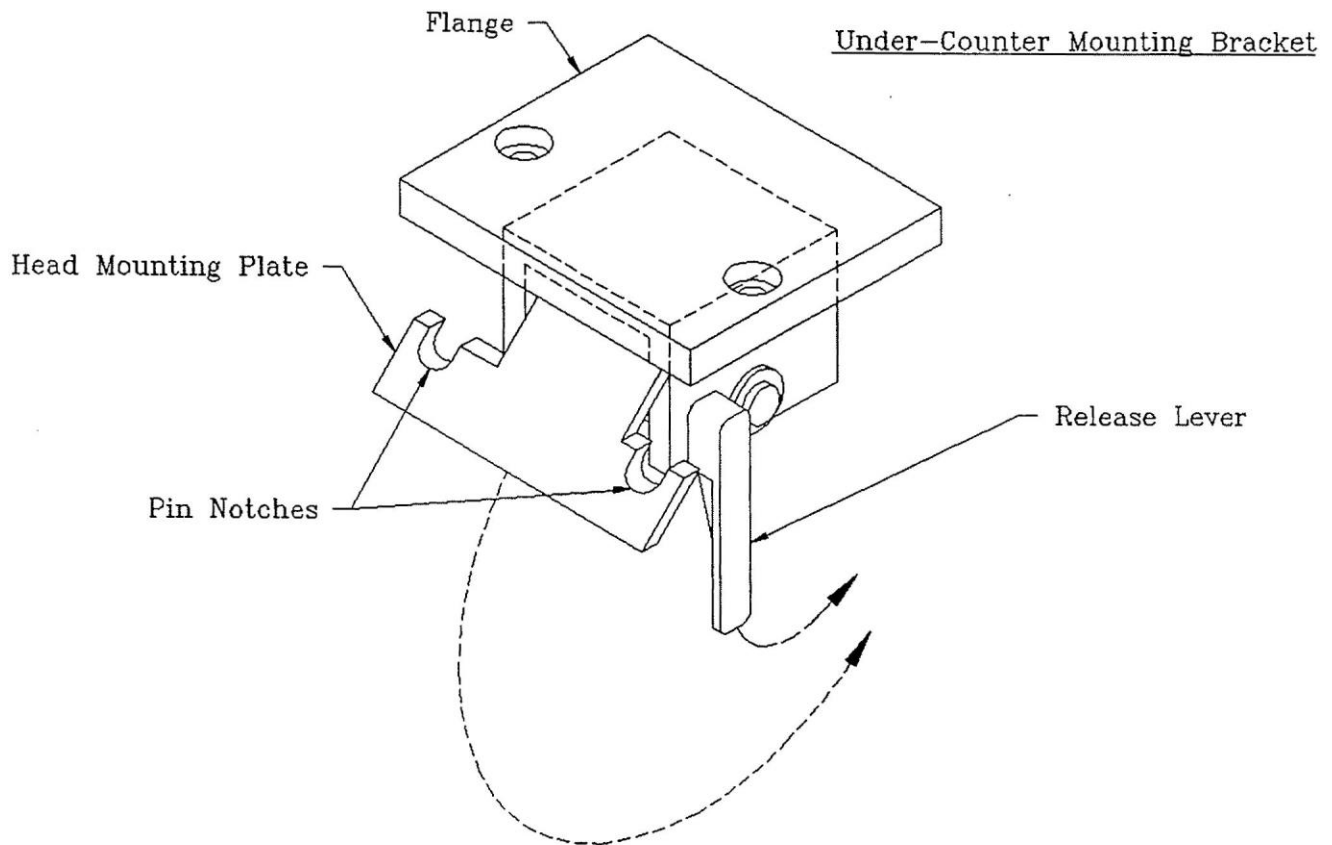

Figure 9
- C. Once the under counter mounting bracket is mounted, check its operation as follows (see fig 9):